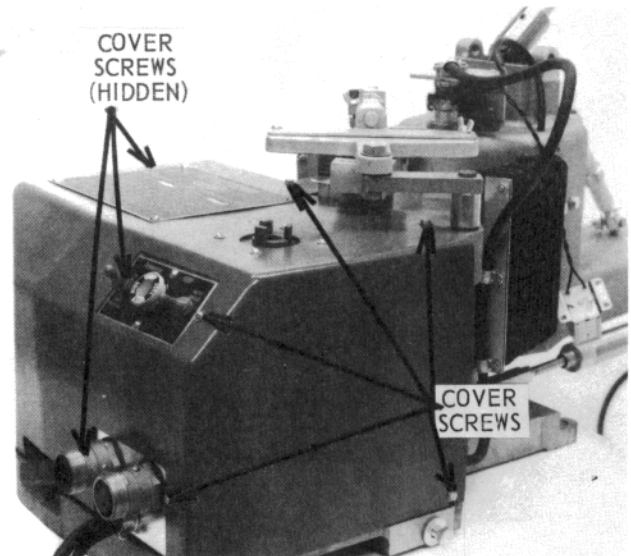

Figure 69 — Cover
- 6.1.5 Remove cover by taking out the eight cover screws (see Figure 69).